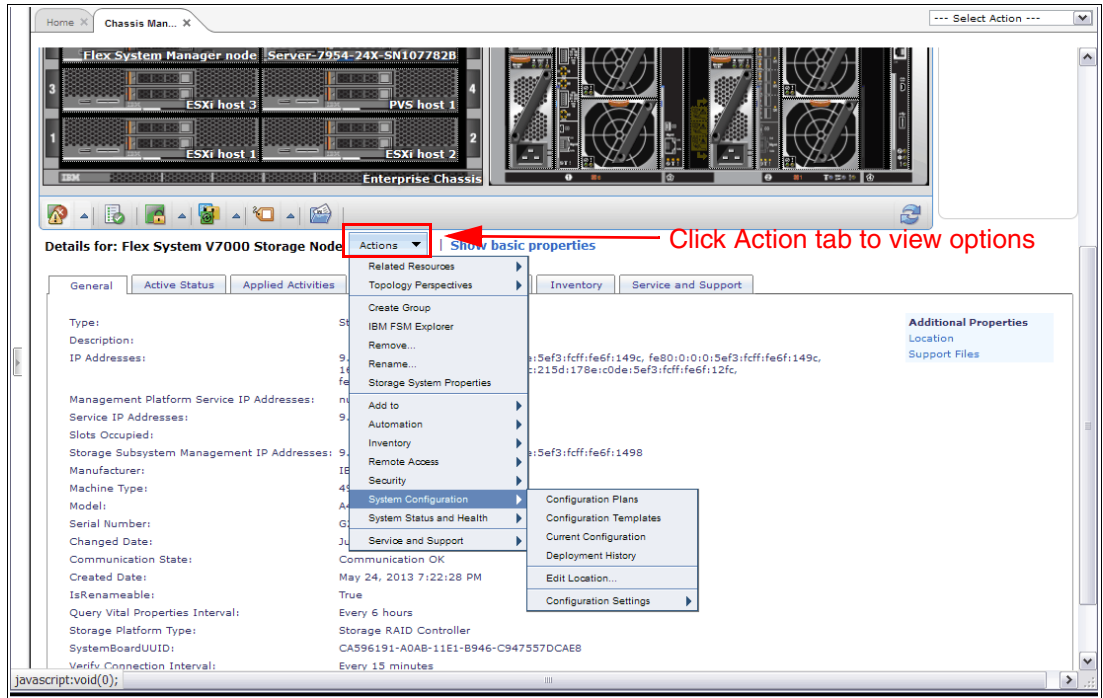

Figure 13-10 Accessing IBM Flex System V7000 Storage Node management options from the FSM Chassis Manager view
4. Click the **Actions** menu for a list of storage viewing and management options, as shown in Figure 13-10.
Tip: You can launch the IBM Flex System V7000 Storage Node management GUI from the Chassis Map view. After you select the storage node in the Chassis Map view (as shown in Figure 13-10) click **Actions** → **Remote Access** → **Launch IBM Flex System V7000**.